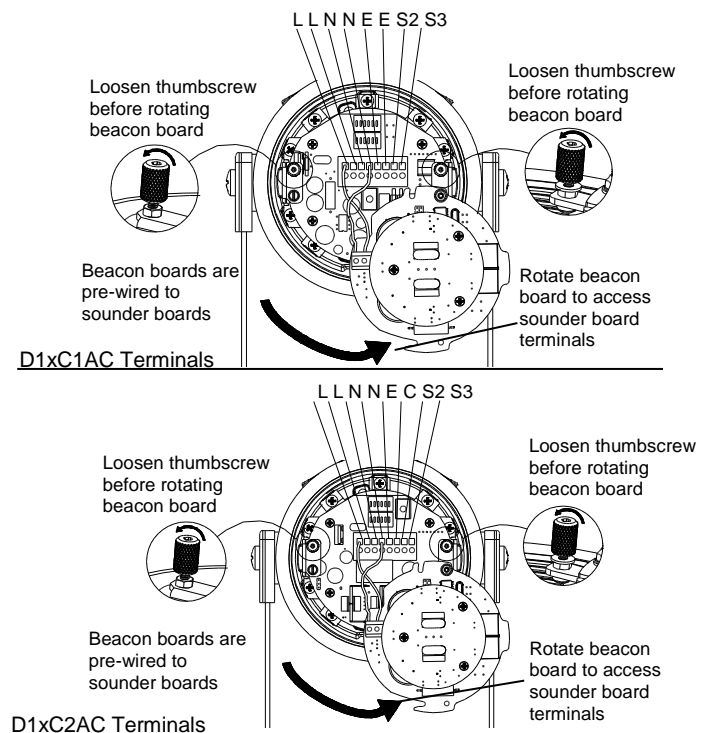
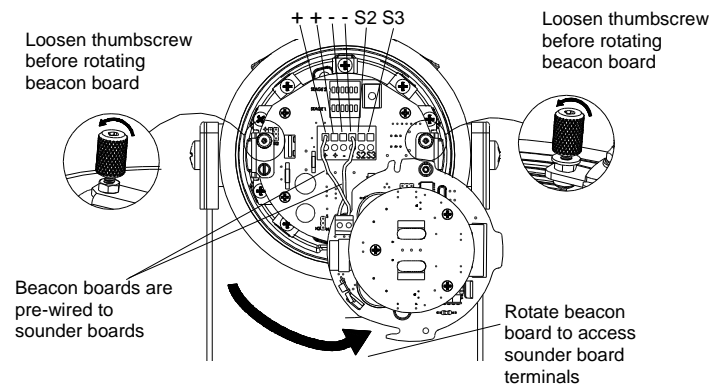

Fig. 6 AC Terminals
Fig. 8 DC Terminals
- Fit an M20/NPT suitably rated cable gland or conduit entry into the hole in the enclosure and connect the field wiring to the appropriate alarm horn terminals as shown in fig. 6 (AC) or fig 8. (DC). The power supply terminals are duplicated so that units may be connected in parallel. An end of line monitoring resistor may be fitted to DC units only (see section 14). If the second and third M20/NPT entries are not used, suitably rated stopping plugs must always be fitted.
Stage one (S1) operation: Simply connect the supply voltage to the L and N supply terminals, (see fig. 6).
Stage one (S1) operation: Simply connect the supply voltage to the + and - supply terminals, (see fig. 8).